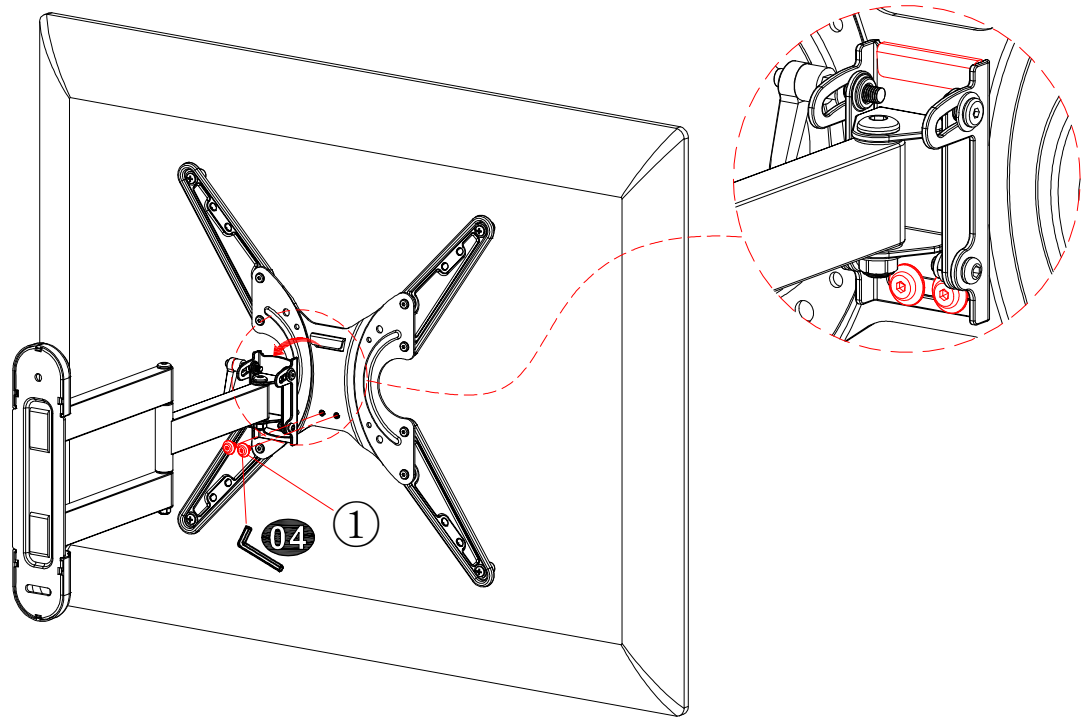

Figure 8
Step 6: Hang pre-assembled TV unit on the wall plate and fix them by bolts ①. (Figure 8)